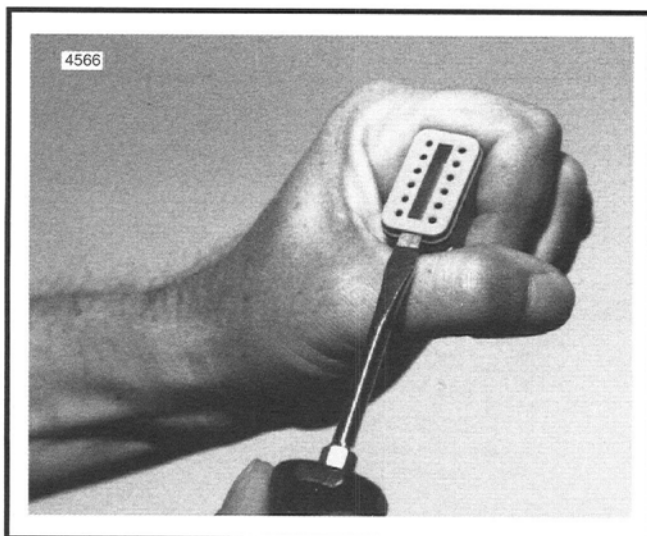

Figure 144. Remove Secondary Locking Wedge
1. See Figure 144. Remove the secondary locking wedge. Insert the blade of a small screwdriver between the socket housing and locking wedge inline with the groove (inline with the pin holes if the groove is absent). Turn the screwdriver 90 degrees to pop the wedge up.